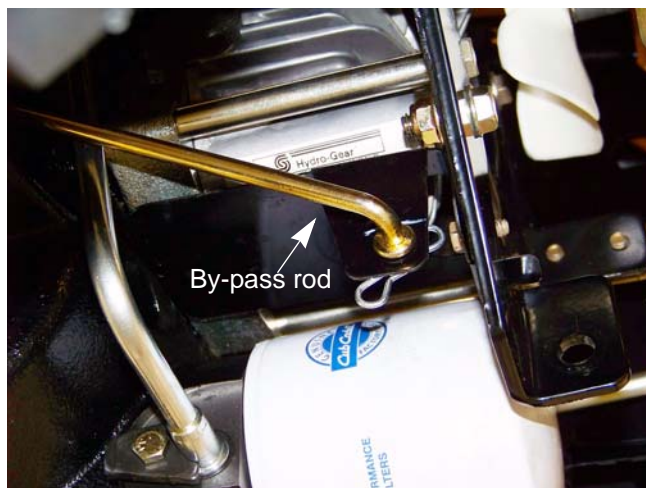

Figure 5.17
- 7a. Remove the bow tie clip. See Figure 5.17.